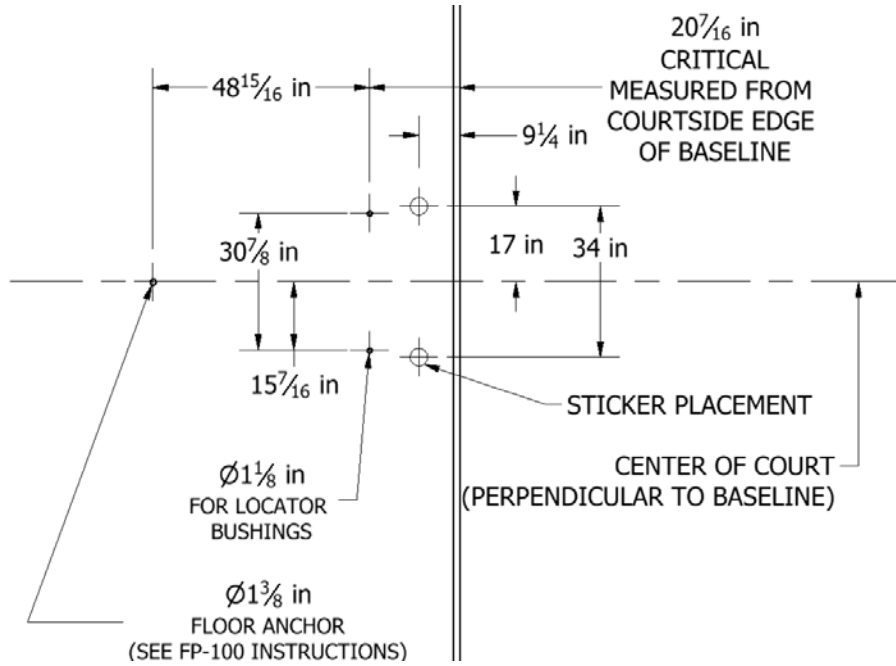

Figure 10-1: PBEL54 Locating and anchor holes and sticker locations.
- a. PBEL54 (54" overhang): refer to Figure 10-1